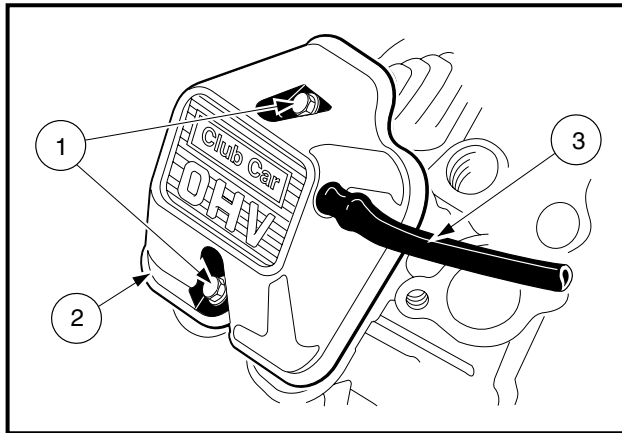

Figure 2-5 Rocker Cover Removal
1. Remove the two bolts (1) and remove the rocker cover (2) along with breather tube (3) (**Figure 2-5, Page 2-7**). See following **NOTE**.